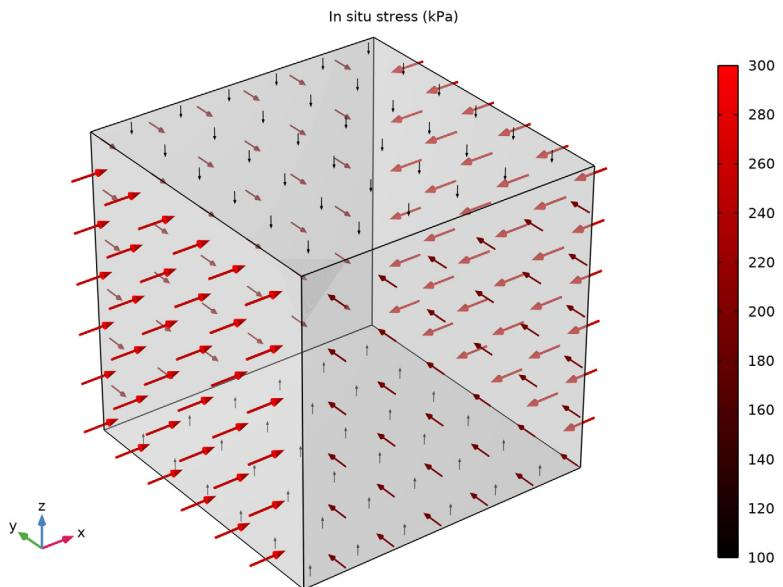

Figure 2: In situ stress applied on the surface of the block.
- The in situ stress is prescribed via the External Stress node, it is 300 kPa, 200 kPa, and 100 kPa in the x, y , and z directions, respectively. The in situ stress components are shown on Figure 2.